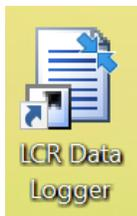

Figure 3-2: LCR Data Logger Shortcut Icon
3. Run the LCR Data Logger software by opening **LCR\_PC\_IF.exe** from the location where the application is installed. The default location is at **Windows (C:) > Program Files (x86) > LCR Research > LCR Data Logger > LCR\_PC\_IF.exe**. Alternatively, you can open LCR\_PC\_IF.exe by double clicking the shortcut icon of LCR Data Logger on your PC desktop as Figure 3-2 shows.